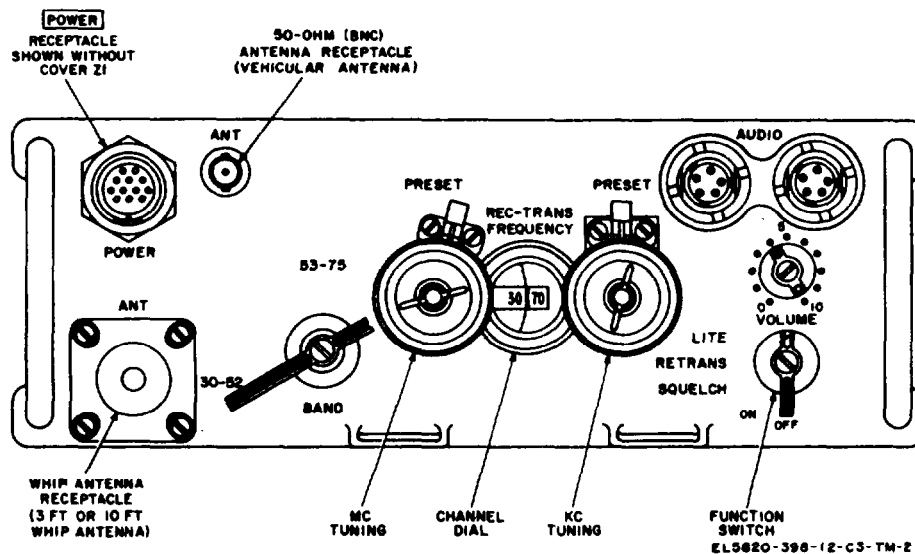

Figure 3-1. Receiver -transmitter, controls, indicator, and connectors.
(1) Remove the cover from the ANT mount (fig. 3-1).
(2) Screw the bottom of the AT-892/PRC-25 into the ANT mount. Make sure AT-892/PRC-25 is tightened down fully; check its tightness often. See caution in *d below*.
(2) Screw Support, Antenna AB-591/PRC-25 into the ANT mount.
(fig. 3-1)
(fig. 3-1 and 3-2)
On the mc and kc controls (fig. 3-1) are pre-set levers that can be set to catch the stops on each control (fig. 3-2). Thus, when two channels are preset, they can be selected without looking at the channel dial (fig. 3-1). Use the procedures in a below to set the kc control; use the procedures in b below to set the mc control.